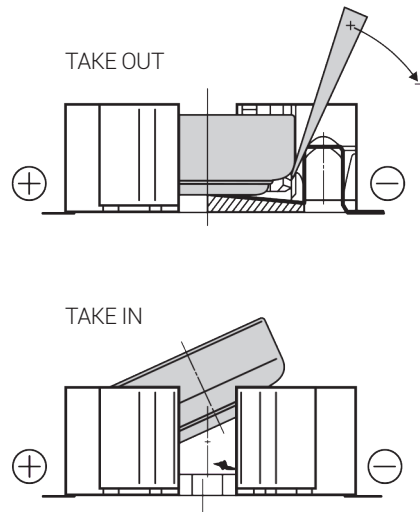

Fig. 10
- Carefully remove the battery from the battery holder located on the electronic display board with extra care to avoid any damage to the battery support (it is recommended to use a flathead small screwdriver for this operation) and replace it with a new one, as shown in **(Fig. 10).**